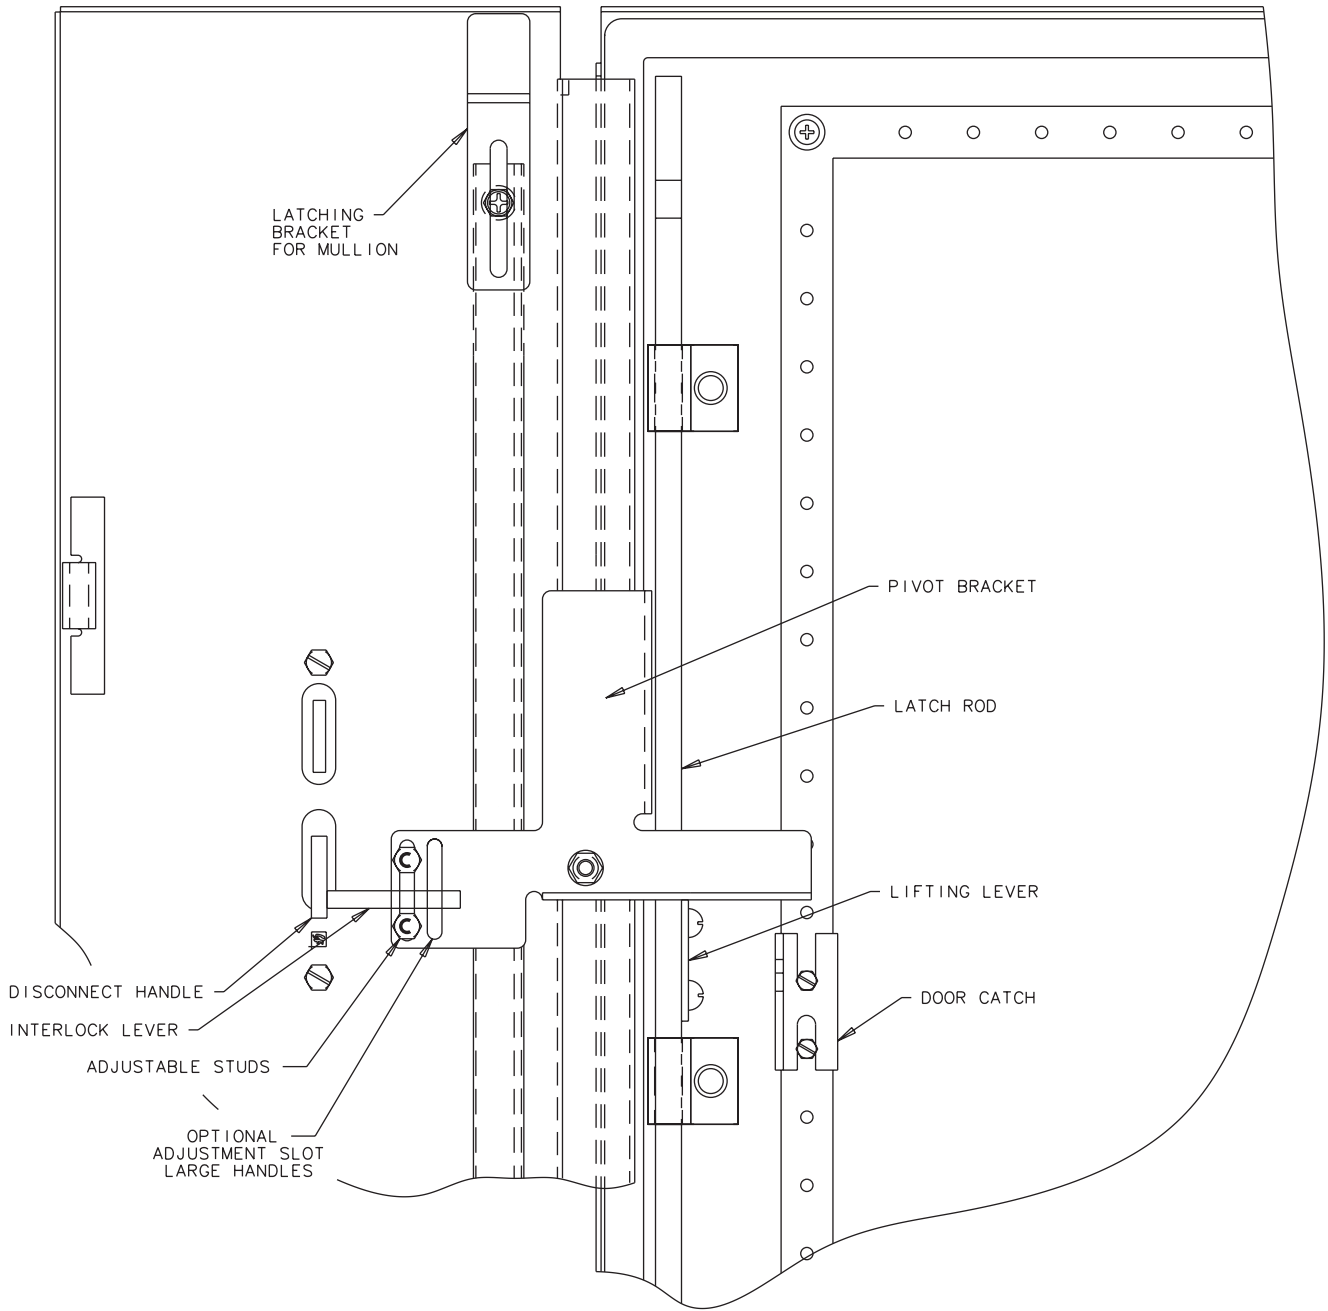

Figure 1
Step 2 – Install the disconnect operating handle on disconnect mullion. Remove the pivot bracket shown in Figure 1. Follow disconnect manufacturers instructions to install and assemble operating handle.
Step 3 – Position the pivot bracket (removed in step 2) so that the interlock lever (on the disconnect operating handle) fits between the two adjustable studs. See Figure 1. Secure pivot bracket to disconnect mullion with shoulder collar and hex nut.
Step 4 – Close and latch the disconnect mullion to the PROLINE[®] frame. Sliding latches are provided at the top and bottom of the mullion. See Figure 1.
a. Adjust studs on pivot bracket so pivot bracket is horizontal when disconnect operating handle is in the “OFF” (open) position. The interlock lever moves upward when the disconnect handle is operated to the “ON” (closed) position. This motion rotates the pivot bracket so it will engage with the door catch on the disconnect door. Adjust door catch up or down if necessary to provide proper engagement. See Figure 1.
b. Adjust lifting lever (mounted on latch rod). See Figure 1. The lifting lever moves upward as disconnect door is being latched. The lifting lever prevents the pivot bracket from rotating which releases the interlock lever on the disconnect operating handle. This action allows the disconnect operating handle to be operated to the “ON” (closed) position only when disconnect door latching is engaged to the frame.
NOTE: Proper adjustment will allow the operating handle to be placed on the “ON” position when the door is closed and will prevent the door from opening when the operating handle is in the “ON” position. If the door can be opened with the operating handle in the “ON” position, move the door catch up. (See Figure 1) If the operating handle cannot be pushed up into the “ON” position (with door closed), move the defeater lever on the latch door up slightly. See Figure 1.